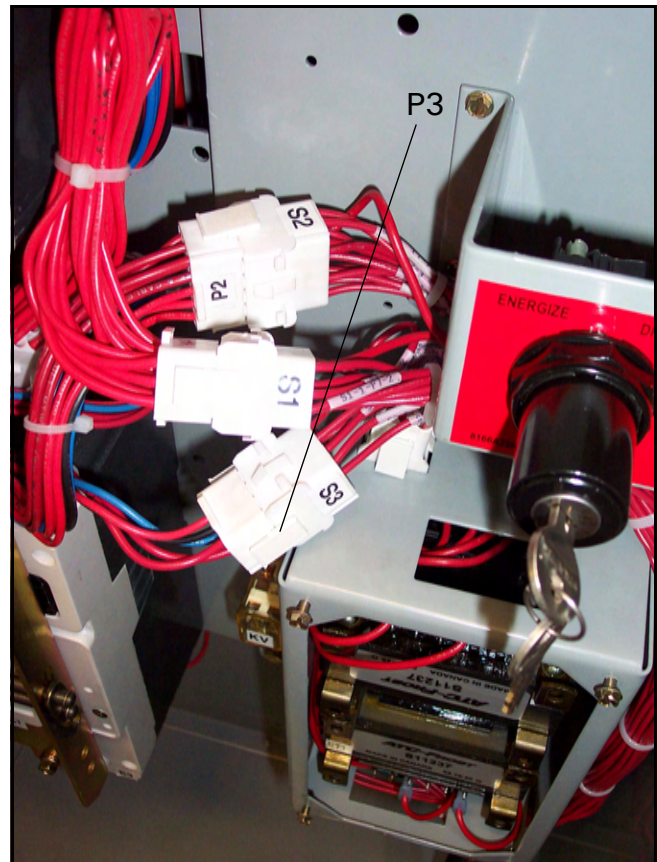

Figure 31. Motor Disconnect P3 must be disconnected.
**IF AN ATS WITH ANY TYPE OF ELECTRICAL OPERATING CAPABILITIES IS TO BE OPERATED UTILIZING THE MANUAL OPERATING HANDLE, IT IS STRONGLY RECOMMENDED THAT THE TRANSFER MOTOR CIRCUIT FIRST BE ISOLATED. THIS IS ACCOMPLISHED BY UNPLUGGING THE (P3) PLUG MARKED MOTOR DISCONNECT (FIGURE 31). ANY ATTEMPT TO USE THE MANUAL OPERATING HANDLE WITHOUT FIRST ISOLATING THE MOTOR CIRCUIT CAUSES AN AUTOMATIC TRANSFER.**